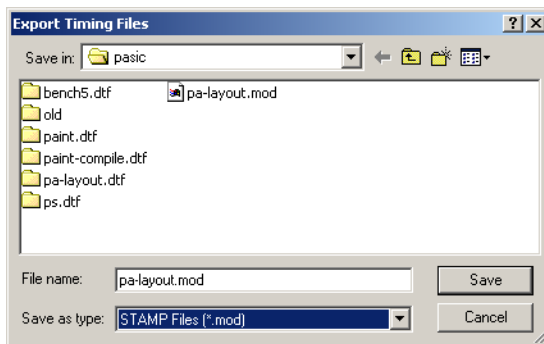

Figure 2-34. Export Timing Files Dialog Box
1. **In the File Menu, click the *Timing export option from the Export sub-menu.*** This displays the Export Timing Files dialog box, as shown in Figure 2-34.